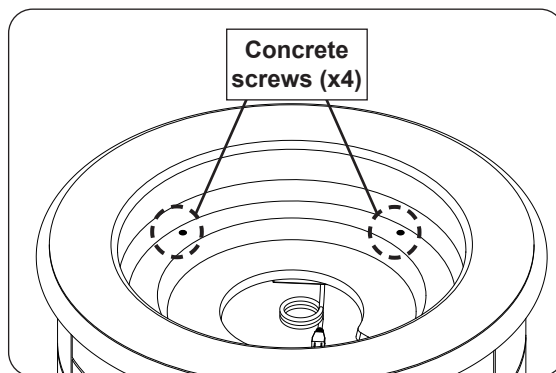

Fig. 26-2 Remove concrete screws
1. Remove the 4 concrete screws from the refractory panel (see Fig. 26-2).